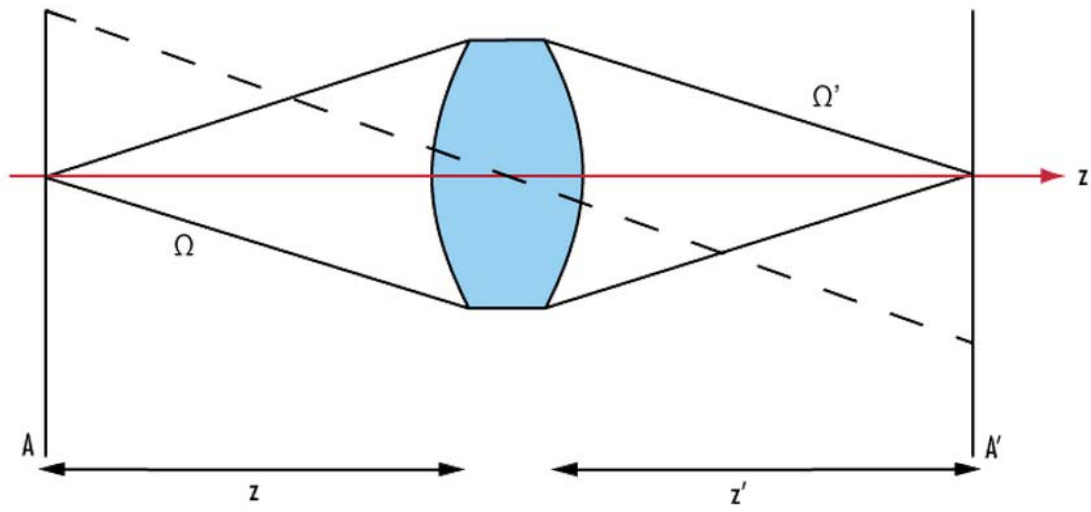

Figure 5: DCX Lens Illustrating Throughput
Figure 5 shows the basic definition of throughput (TP) as expressed in Equation 1.7, where A is the Area of the object, (light source), Ω is the Solid Angle, and z is the Object Distance (with their conjugates in image space as A', Ω' , and z').